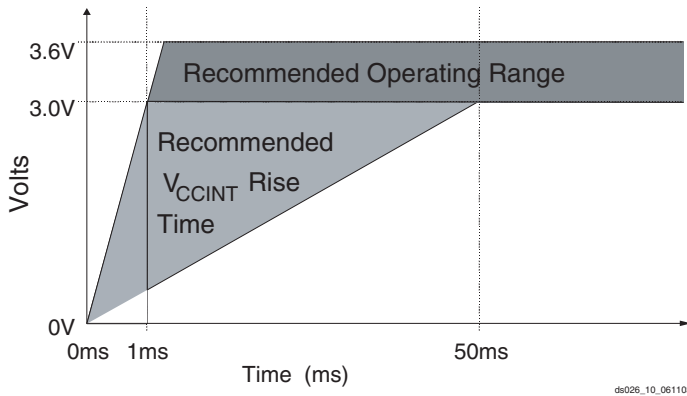

Figure 8: V_{CCINT} Power-Up Requirements
On power up, $\overline{\text{OE/RESET}}$ is held low until the XC18V00 is active (1 ms). $\overline{\text{OE/RESET}}$ is connected to an external $4.7\text{k}\Omega$ resistor to pull $\overline{\text{OE/RESET}}$ HIGH releasing the FPGA INIT and allowing configuration to begin. If the power drops below 2.0V, the PROM resets. $\overline{\text{OE/RESET}}$ polarity is *not* programmable. See Figure 8 for power-up requirements.
- At power up, the device requires the V_{CCINT} power supply to monotonically rise from 0V to nominal voltage within the specified V_{CCINT} rise time. If the power supply cannot meet this requirement, then the device might not perform power-on-reset properly. See Figure 8.